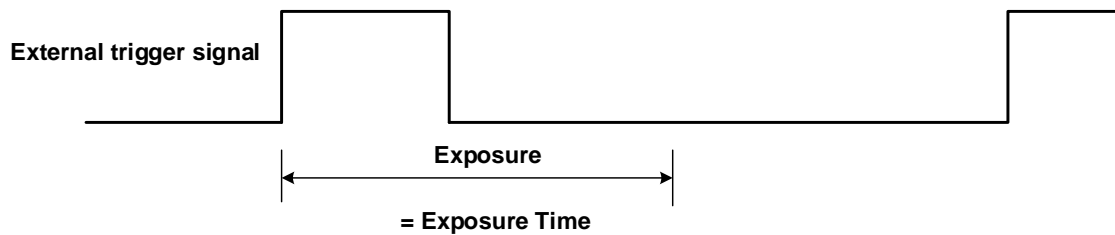

Figure 8-25 The sequence diagram in rising edge trigger of Timed exposure mode
- If rising edge triggering is enabled, exposure starts when the trigger signal rises and continues until the exposure time has expired, as shown in Figure 8-25